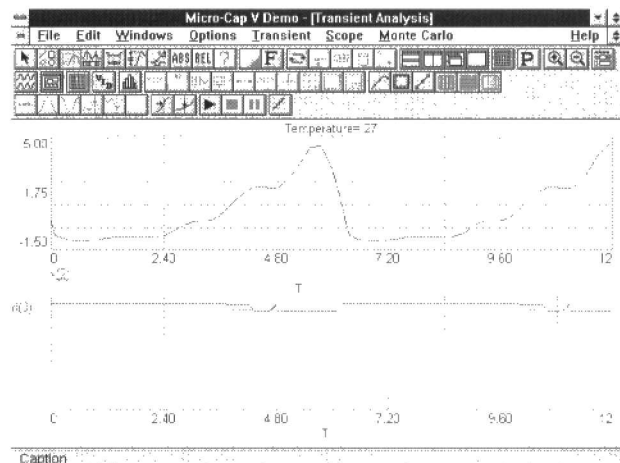

Figure 36. This digital signal is not satisfactory because its transitions are not clearly defined.
where PI is π , equal to 3.1416 and * signifies multiplication. If you have read about Fourier series you may recognise that these are the first 5 terms of the series which defines a saw-tooth waveform. The amplitude of this waveform is just over 9 V and its frequency is 0.159 Hz. If you try to connect the NFV directly to a logic gate, you will get a 'Digital Warning' from MC5 that the voltage is too high, assuming that the logic operates on 5 V. Use a potential divider to reduce this (Figure 35), add a capacitor to smooth the waveform, and feed the signal to a digital inverter gate. MC5 automatically puts an A-to-D converter in place. The Transient Analysis (12 s, 501 points) shows the voltage waveform at node 2 and the digital output at node 3 (remember that this is for MC5's use and does not form part of a real circuit). The digital output (Figure 36) is unsatisfactory because, although it is low when V(2) is high, and high when V(2) is low, as might be expected from an inverter, there are occasions when V(2) is slowly changing between high and low and the output of the inverter is indeterminate. At 4.8 s when there is a small local fall in V(2), there is a momentary high spike on the output.